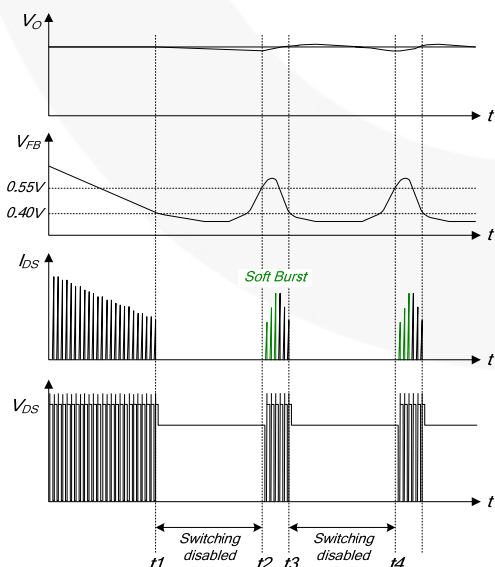

**Figure 21. Abnormal Over-Current Protection**
**4.2 Abnormal Over-Current Protection (AOCP):** When the secondary rectifier diodes or the transformer pins are shorted, a steep current with extremely high di/dt can flow through the SenseFET during the minimum turn-on time. Even though the FSL126MRT has overload protection, it is not enough to protect in that abnormal case; due to the severe current stress imposed on the SenseFET until OLP is triggered. The internal AOCP circuit is shown in Figure 21. When the gate turn-on signal is applied to the power SenseFET, the AOCP block is enabled and monitors the current through the sensing resistor. The voltage across the resistor is compared with a preset AOCP level. If the sensing resistor voltage is greater than the AOCP level, the set signal is applied to the S-R latch, resulting in the shutdown of the SMPS.